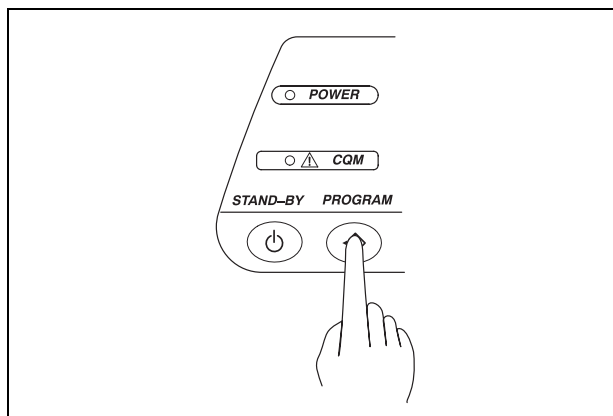
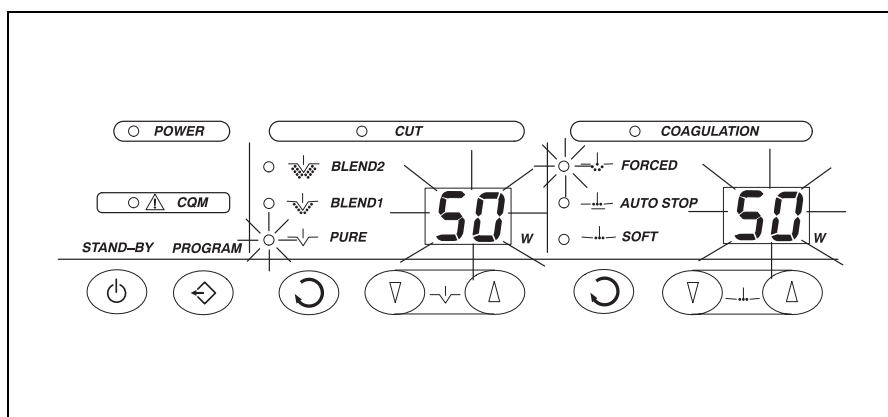

Figure 5.7
Figure 5.8
1. Press the program switch, when the electrosurgical unit is turned ON and the cut mode and coagulation mode indicators are flashing (see Figure 5.7). The stored cut mode, coagulation mode and output setting will be displayed and a short beep is generated (see Figure 5.8).